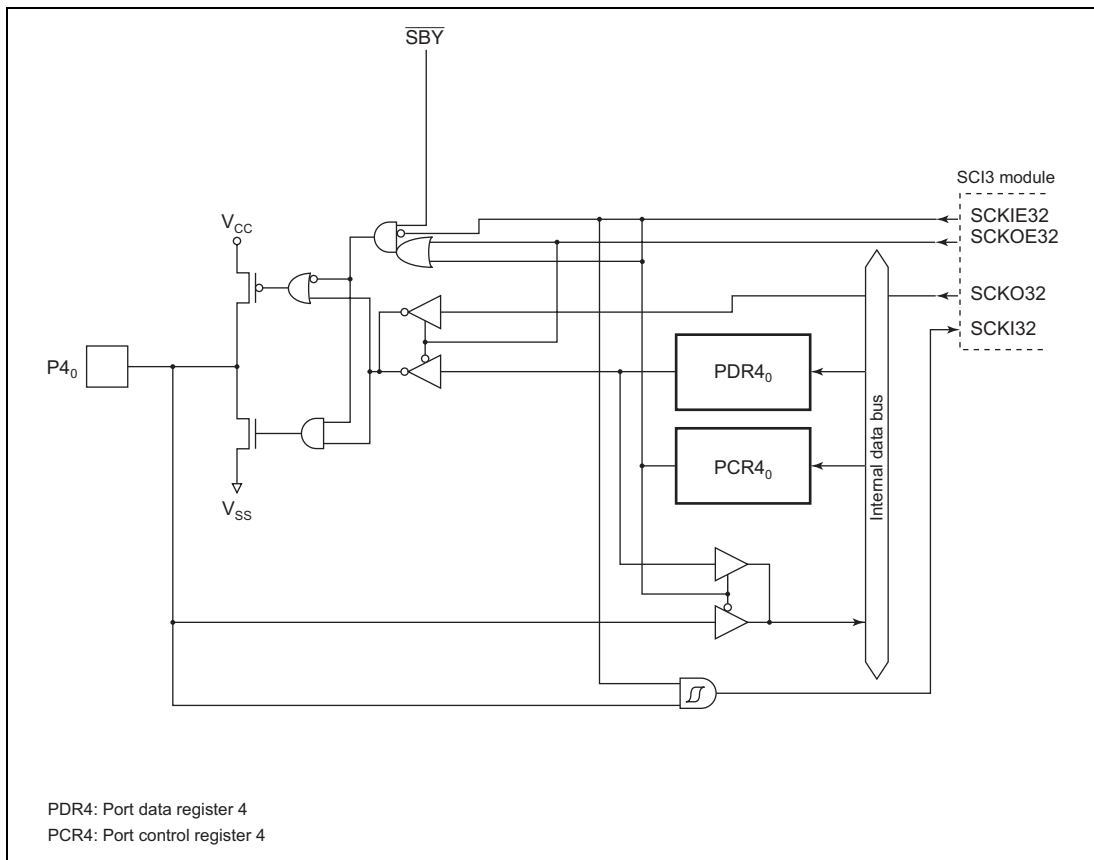

Figure B.3(d) Port 4 Block Diagram (Pin P4₀)
B.3 Block Diagrams of Port 4**Figure B.3(a) Port 4 Block Diagram (Pin P4₃)**